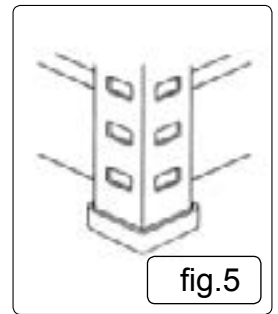

fig.5
- 5.6. See fig.5. When the frame is complete attach the plastic floor protectors to the bottoms of the angle sections. Get a second person to steady the frame while this is done.